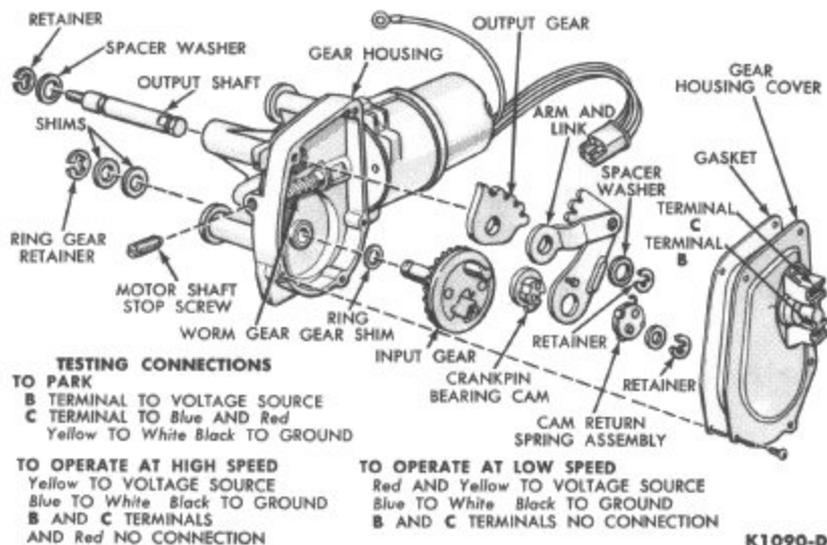

FIG. 59—Two-Speed Electric Wiper Motor—1963
1. Remove the gear housing cover plate and gasket (Fig. 59).